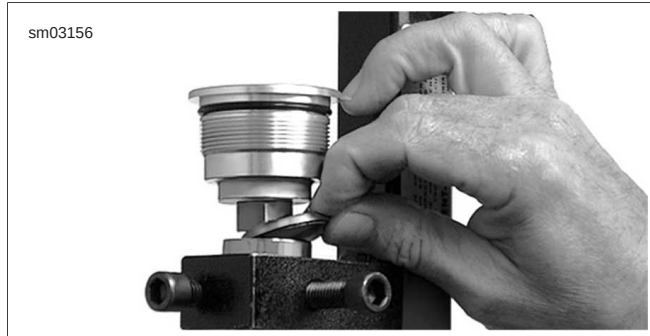

Figure 2-190. Install Keeper
17. See Figure 2-190. Compress fork using FRONT FORK COMPRESSOR (Part No. HD-45966).